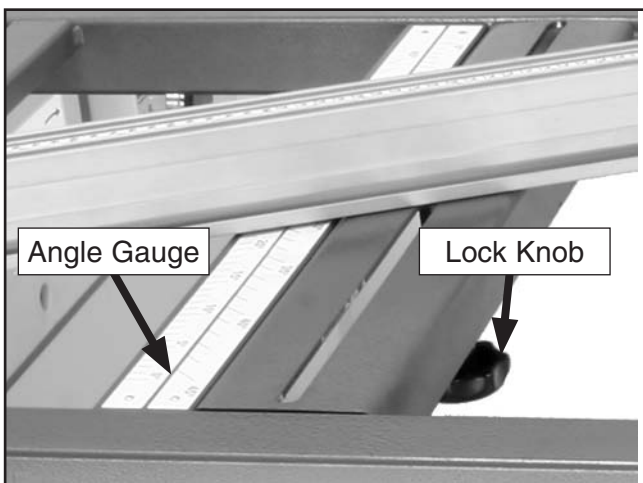

Figure 63. Crosscut table angle gauge.
3. Set the fence to the desired angle using the crosscut table angle gauge and lock the angle with the lock knob (see **Figure 63**).